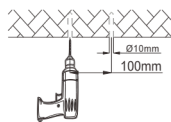

Figure 3
- 1.Use a chalk or sharp tool to mark signs on the top of the ceiling or wall, then drill holes on the signs by electric drill. (Figure 3)